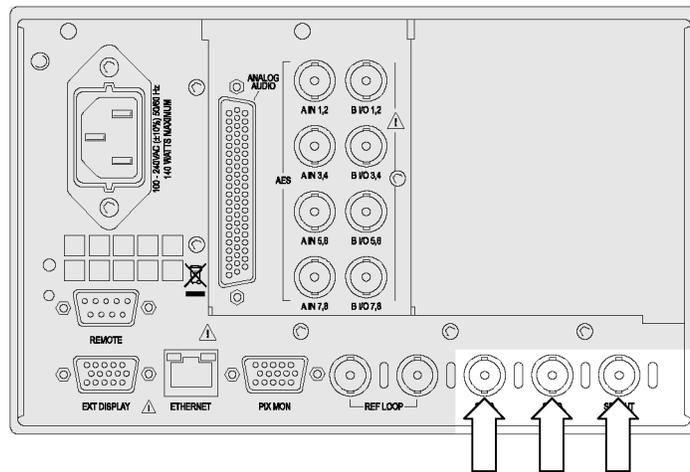

Figure 6: Removing the hex nuts and washers from the BNC connectors
- a. Remove the hex nuts and washers from the three BNC connectors on the I/O Mezzanine module. (See Figure 6.)